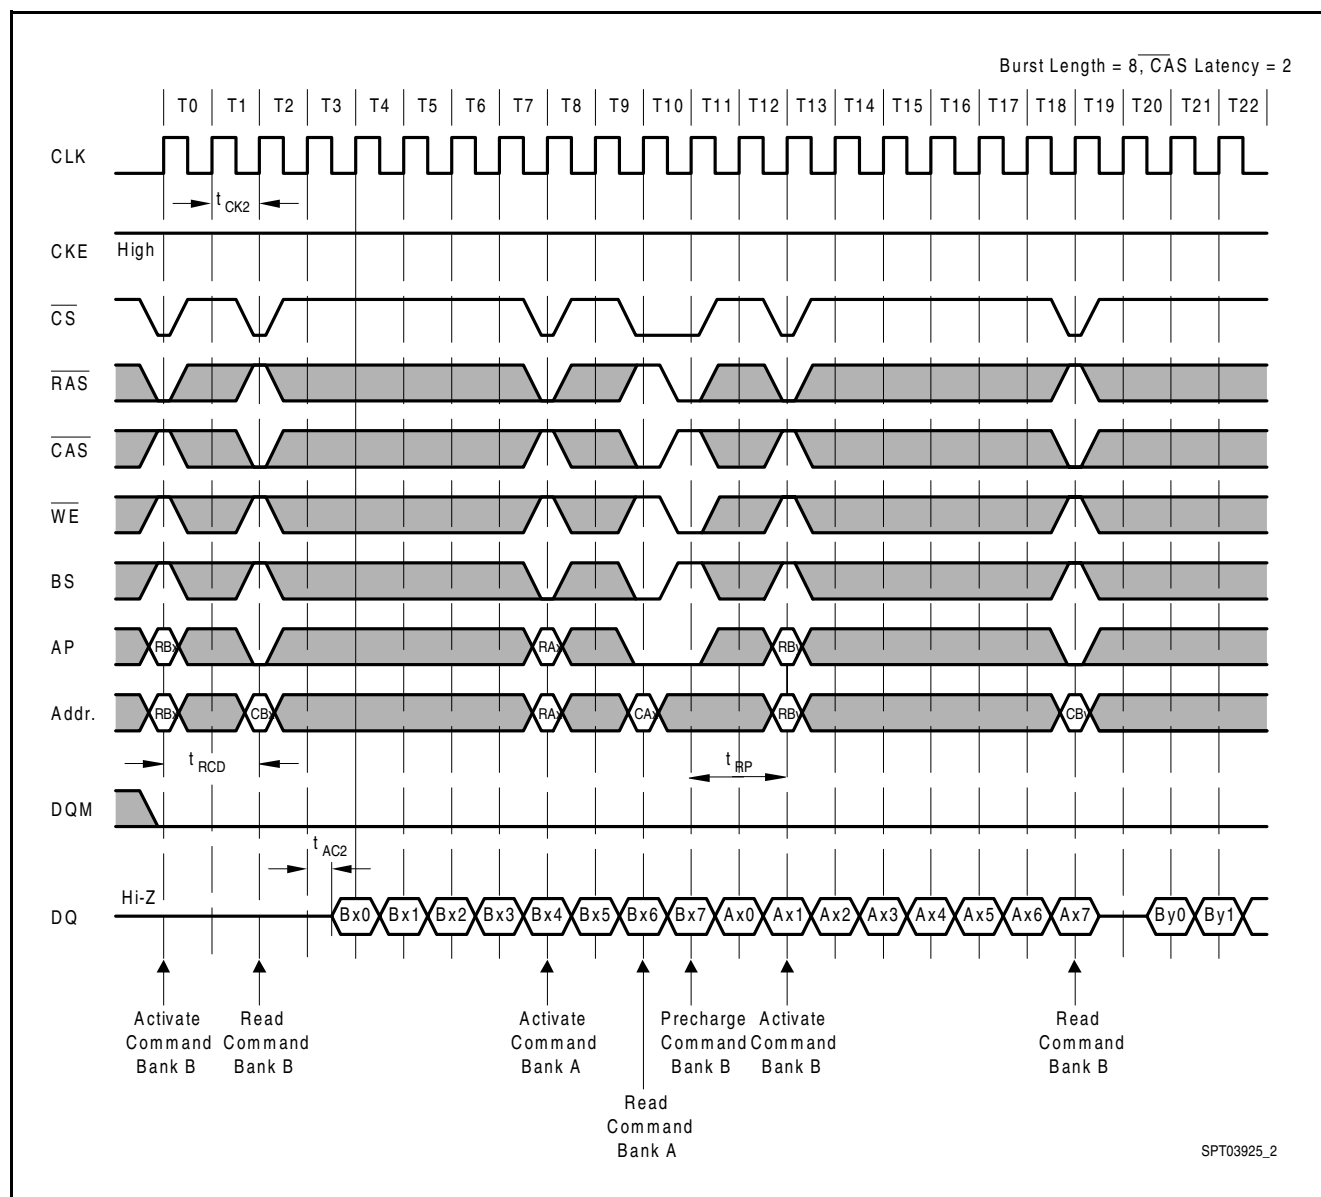

Figure 31 CAS Latency = 2
- **Figure 31** CAS Latency = 2